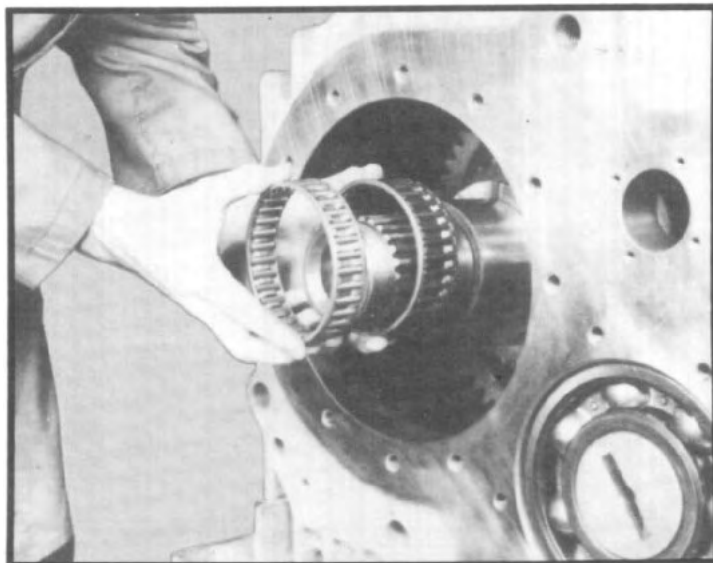

Fig. 144
3.9 Slide the two needle bearing assemblies over the rear of the shaft. The wider needle bearing, first and the narrower needle bearing, last. (See fig. 144.)